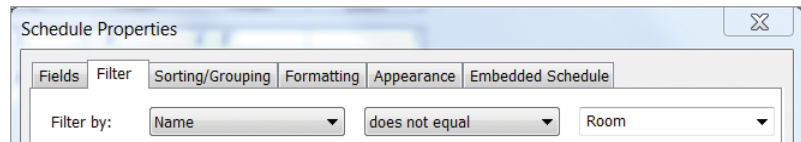

FIGURE 12.8 Filter out unnamed rooms.
4. Click the Filter tab and choose Filter by Name, does not equal, Room. This will filter out rooms that haven't been updated with a specific name representing their function (Figure 12.8).